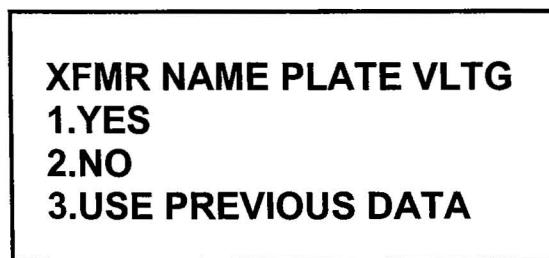

Figure 14-4A. Nameplate Voltage Selection Menu
- 1. If the user continues to run another test on the transformer, the menu below will be displayed (figure 14-4A). The user now has a new option: the same nameplate voltage data can be used.